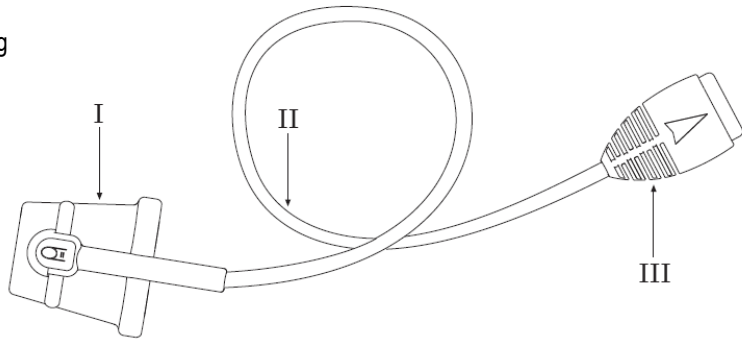

Figure 4
2. Sensor (see figure 4)
Sensor Components: (Figure 4)
- ❑ Before use, the sensor must be connected to the measuring unit properly. Gently insert the connector plug (Figure 4-III) into the socket (Figure 3-A) ensuring that the pins are aligned correctly.
- ❑ The PulseOx will initiate readings within 6-8 Seconds. Data will automatically be stores in the memory (See memory section below). The device will continue to monitor SpO₂ (Figure 5-9) until the finger is removed from the thimble (Figure 4-I) or if the on/off button is pressed.
- ❑ To turn off the PulseOx, press the on/off button (Figure 3-B) or simply remove the finger from the elastic thimble (Figure 4-I) and wait 15 seconds for the unit to turn off.